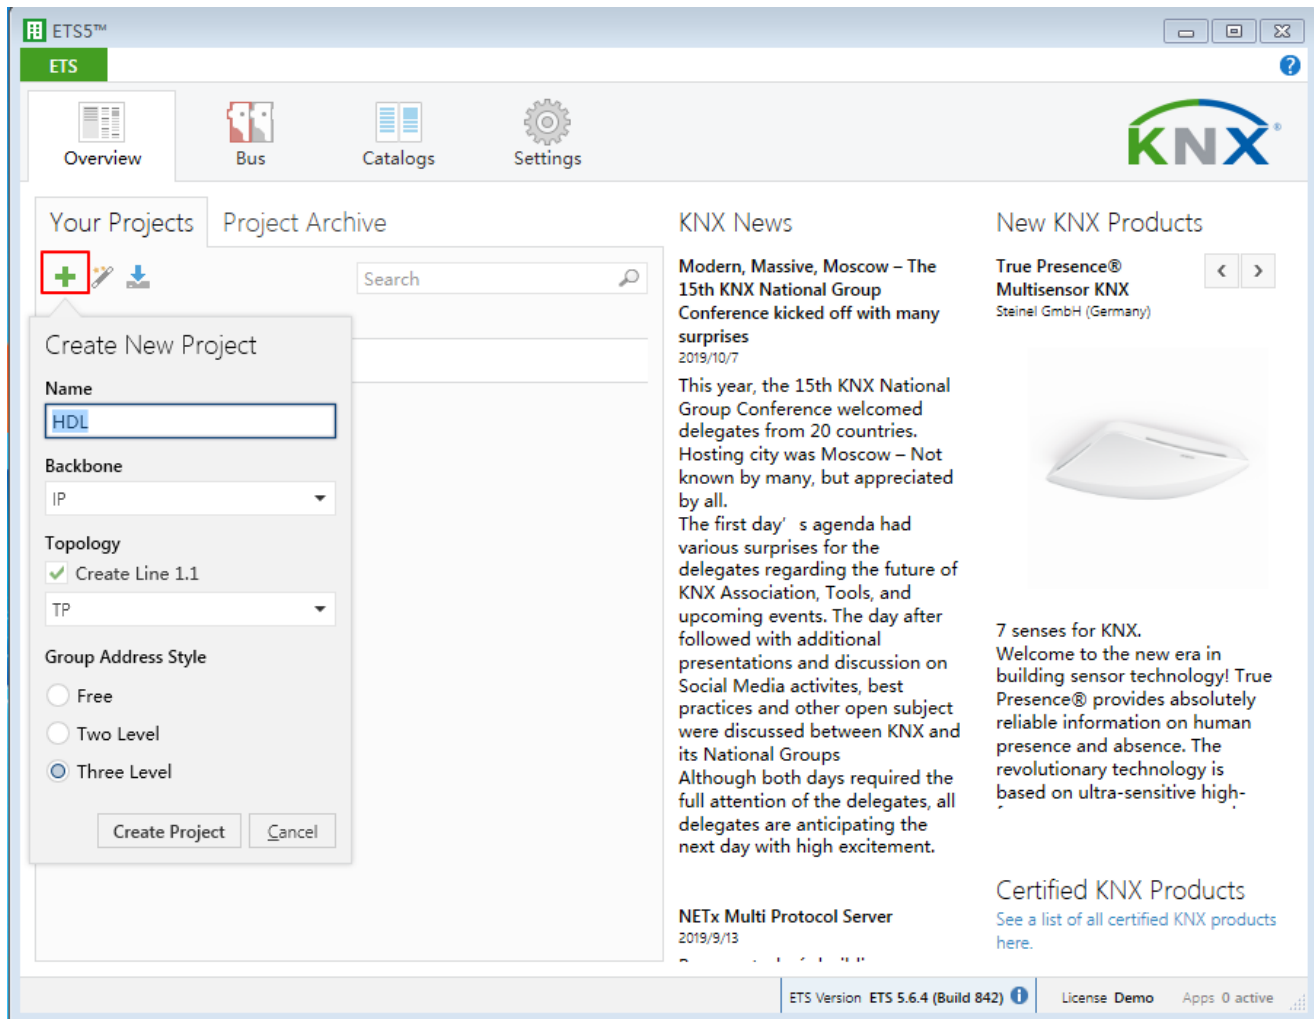

Figure 1-2 Create projects
2. **Create Projects:** as shown in Figure 1-2, in “Your Projects” tab page of “Overview” page, click “+” to create projects. After editing project name, please keep other setting items by default.